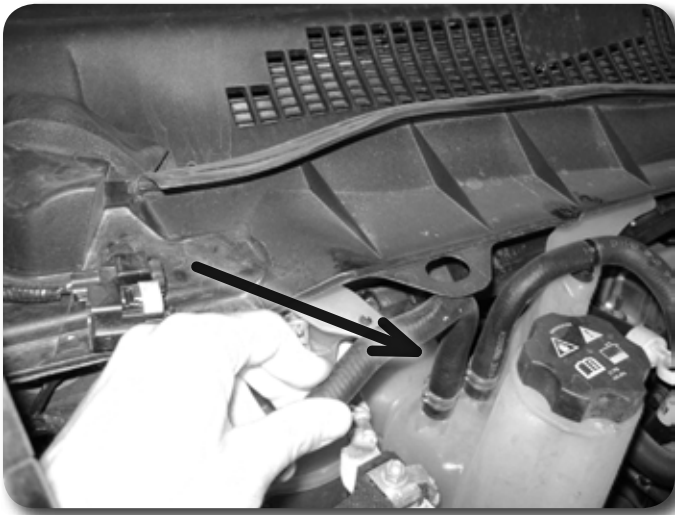

Figure 2
4. Disconnect the coolant line near the firewall on the passenger's side from the retaining clip. **Figure 2**